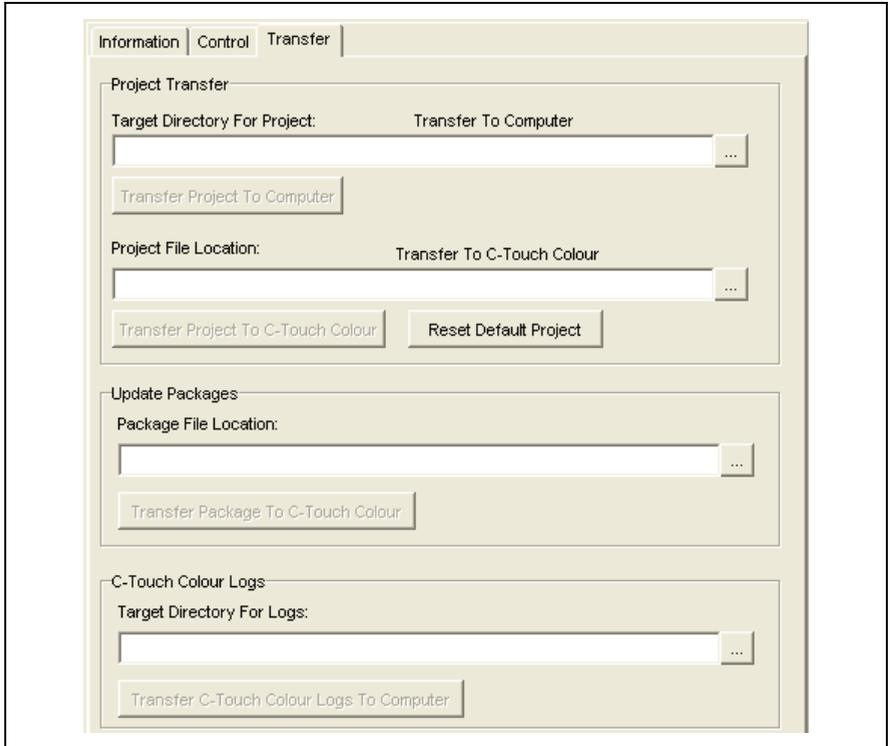

Figure 22 – The Transfer page in the Transfer Utility software
- 14) Click the Transfer tab to select the Transfer page shown in Figure 22. From here you can transfer a project to the C-Touch Colour Touch Screen. You can also transfer a project or log file from the C-Touch Colour to your PC, or update the C-Touch Colour with new system software (if provided).